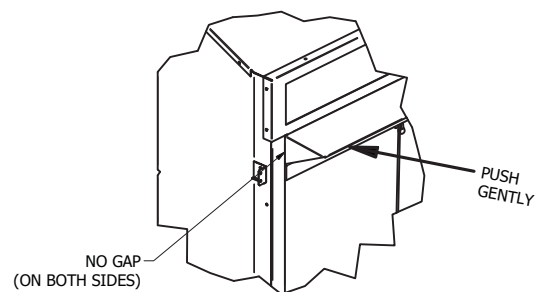

Figure 11a - Canopy/Hood Assembly
3. Push the canopy/hood toward Firebox to insure there is no gap between the canopy/hood and Firebox as shown in Figure 11a.